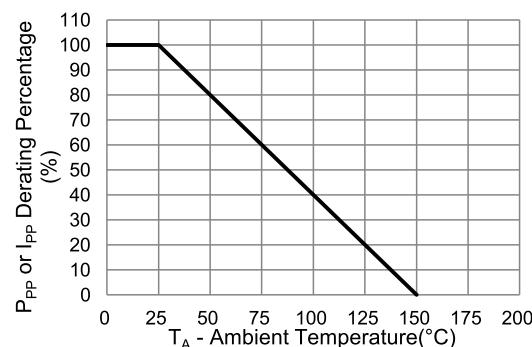

Fig.2 Derating Curve
- Non-repetitive current pulse, per Fig.3 and derated above $T_A = 25^\circ\text{C}$ per Fig. 2.